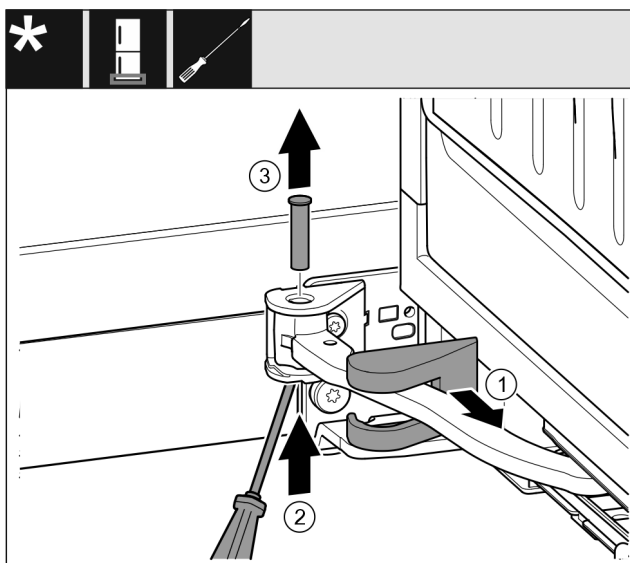

Fig. 16
- Remove the bearing bracket cover and push it along the hinge. Fig. 16 (1)
- Lift the bolt with a finger or screwdriver from below. Fig. 16 (2)
- Insert the screwdriver under the bolt head and pull it out. Fig. 16 (3)